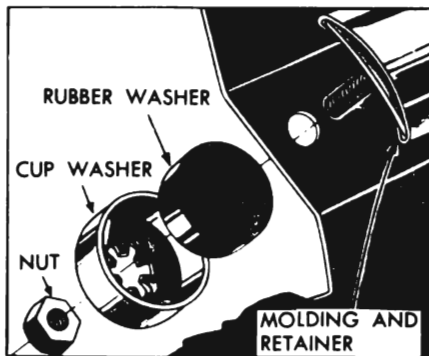

Figure 13-20—Rear Quarter Belt Molding Installation
2. In rear compartment, remove all nuts, cup washers and rubber washers retaining the rear quarter belt molding. See figure 13-20.